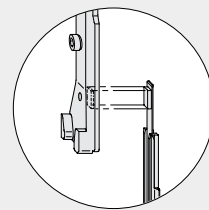

Figure 1
- > A** Insert slider (page 2: 36) with operating rod S4 and corner drive VSU/BSO (37) vertically on the BSO.
- B** Insert locking bolt TBT (21), stay LM 4200 (20) and operating rod S3 horizontally on the VSO.
- > C** Insert locking bolt TBT (21), stay LM 4200 (20) and operating rod S3, stay striker MV (42), striker plate (40) and >operating rod (length 234 mm) horizontally on the VSO.
- > D** Couple locking bolt TBT (21) with corner drive VSU/BSO (37). Make sure positioning of coupling piece for corner drive VSU/BSO (37) is correct.
- E** Attach stay hinge (10/16) to stay LM 4200 (20) using countersunk screw M5 x 7 (11/17) (torque 2.5 ± 0.25 Nm).
- > F** Position stay hinge (10/16) according to specifications on page 4 and fasten stay LM 4200 (20) with punching screws.
- > G** Insert slider (36) with operating rod S5 and corner drive VSU/BSO (37) vertically on the VSU.
- H** Insert tilt lock TBT (25), operating rod S1, coupling bracket LM (30/34), operating rod S2 and corner drive VSO (23.1/23.2) vertically on the VSO.
- > I** Couple tilt lock TBT (25) with corner drive VSU/BSO (37). Make sure positioning of coupling piece for corner drive VSU/BSO (37) is correct (Figure 1).
- J** Couple corner drive VSO (23.1/23.2) with operating rod S3 ">operating rod 234" and secure with clamping piece EUL (22).
- K** Insert run-up block (28) horizontally on the VSU (not applicable for MV on the VSU).
- L** Attach handle LM lockable/TBT (1) with cheese head screws M5 x 12 (31) (torque 2.5 ± 0.25 Nm). Make sure the handle catch closes into the coupling bracket (30).
- L** Attach mishandling device LM on rebate (33) with cheese head screws M5 x 12 (312) to the handle LM (1) (torque 2.5 ± 0.25 Nm). Make sure the handle catch closes into the coupling bracket (34).
- M** Press bottom hinge pin (4) into corner hinge (5) DIN right or DIN left.
- N** Insert clamping piece E (6) vertically on the BSU and attach corner hinge (5) using countersunk screws M5 x 8.5 (3) (torque 2.5 ± 0.25 Nm).
- O** Insert corner hinge right/left (13) in the sash groove and fasten with the pre-installed countersunk screws M5 x 8.5 (torque 2.5 ± 0.25 Nm).